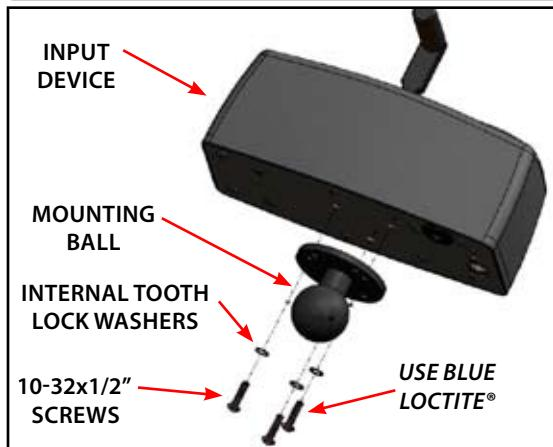
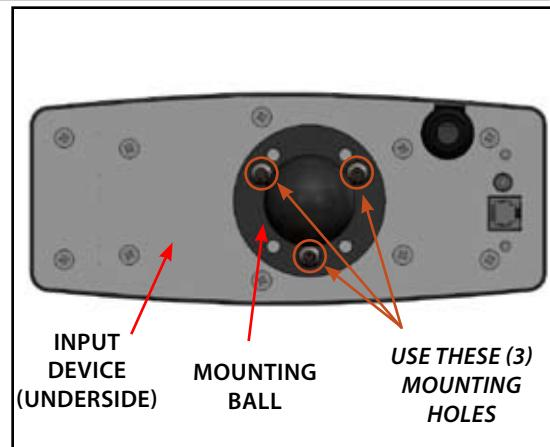

FIGURE 1
FIGURE 2
(4) #10 Internal Tooth Lock Washers	(1) Container of Blue Loctite®
Install the Mounting Ball onto the input device using (3) 10-32 x 1/2" safety torx screws, (3) internal tooth lock washers and the Blue Loctite® as shown in **Figure 1**. In order to install the (3) safety torx screws you will need to use the supplied safety torx bit. There are (7) pre-drilled holes on the mounting ball. **Figure 2** shows which holes should be used to mount the ball onto the input device.